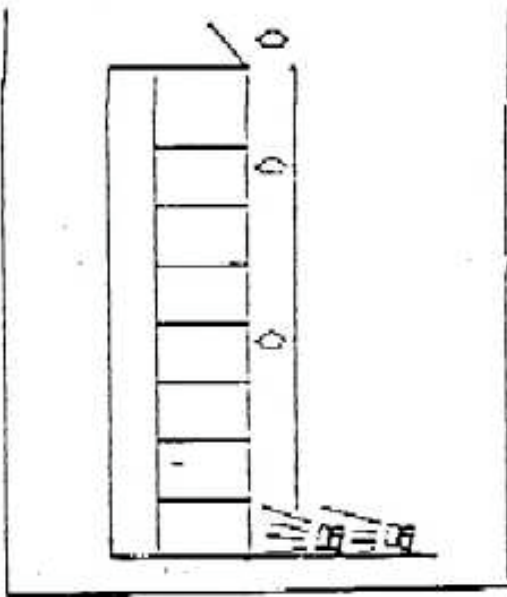

FIGURE 6
3. Positive pressure fans should be used in a series or in an in-line mode; the first fan 5-6 feet from doorway and the second fan 2-3 feet in front of the first fan, to assist in pressurizing the stairwell. (See Figure 6.)